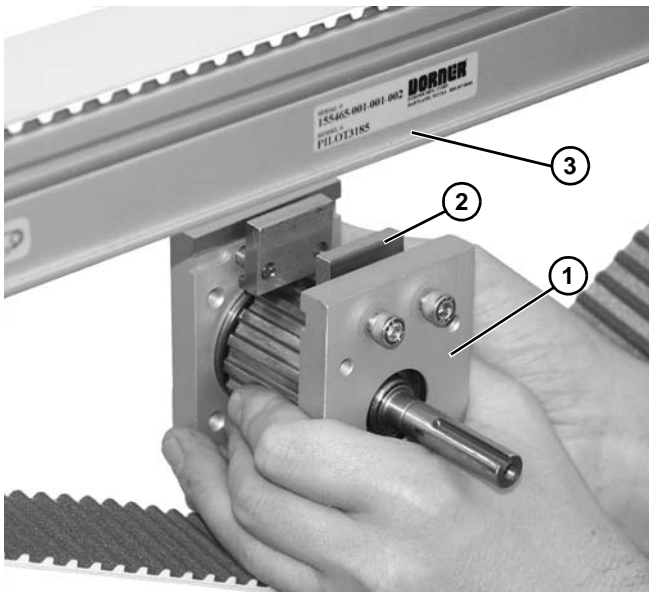

Figure 69
3. Lower center spindle assembly (**Figure 69, item 1**) clamp block (**Figure 69, item 2**) from conveyor channel (**Figure 69, item 3**) on each side of conveyor frame.